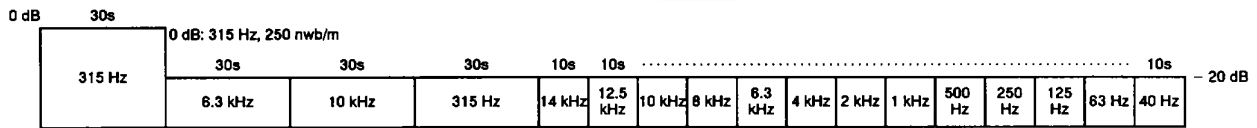

Fig. 6-1 Constants of the test tape STD-331E
- STD-331E : Playback adjustments (See Fig. 6-1)